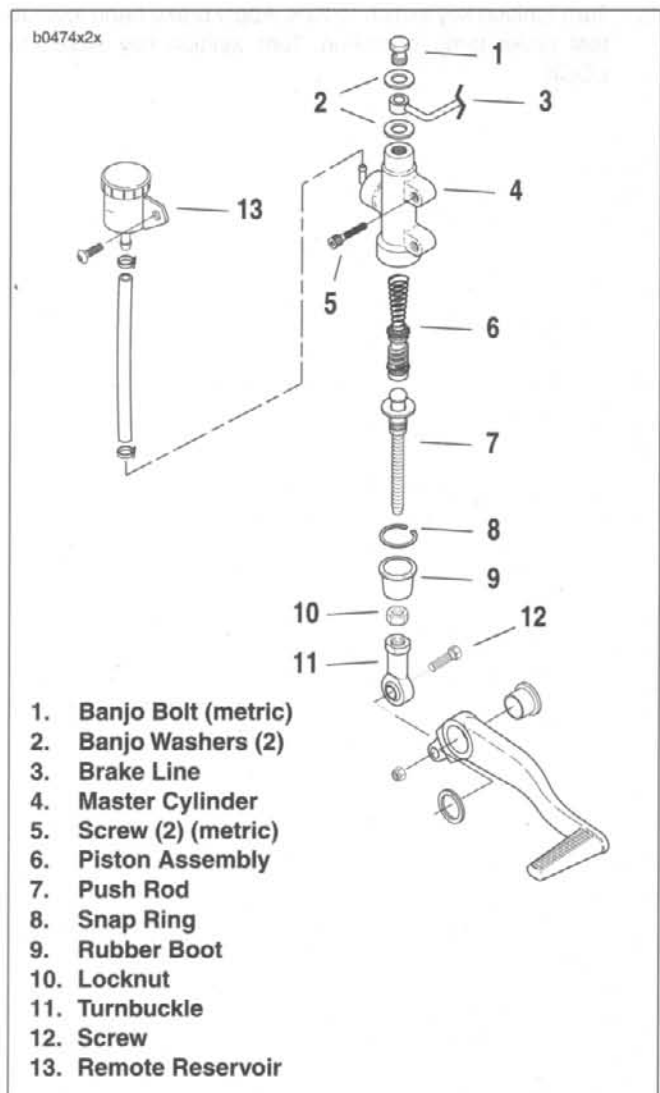

Figure 2-78. Rear Master Cylinder Assembly
2. See Figure 2-78. Remove banjo bolt (1) (metric) and two banjo washers (2) to detach brake line (3) from master cylinder (4). Discard banjo washers.
3. See Figure 2-78. Connect brake line (3) to master cylinder (4) with two **new** banjo washers (2) and banjo bolt (1) (metric). Tighten to 16-20 **ft-lbs** (21.7-27.1 Nm).